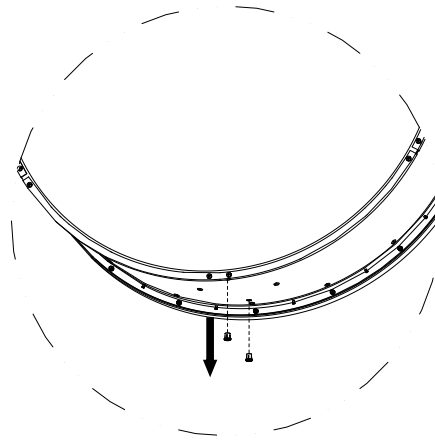

Fig 12.1
- 12.2 Remove the plugs from the antenna bottom drain holes but leave the top two sealed. (Shown in Fig 12.1).